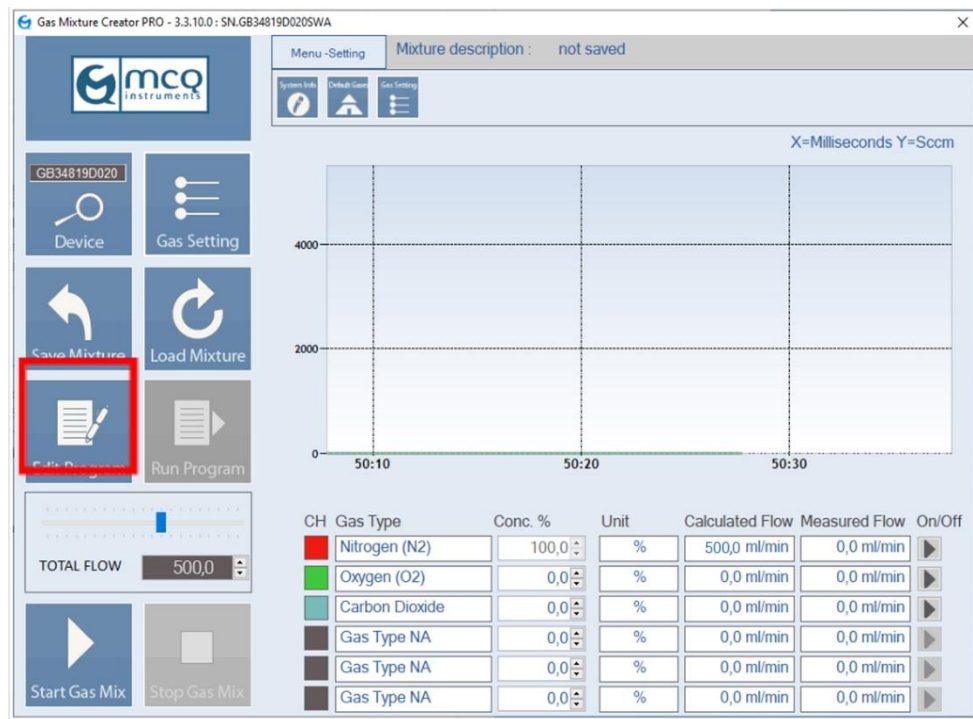

Figure 5-31
1. Click on the MCQ INSTRUMENTS Gas Mixture Creator's icon named **"Edit Program"**. (Figure 5-31)